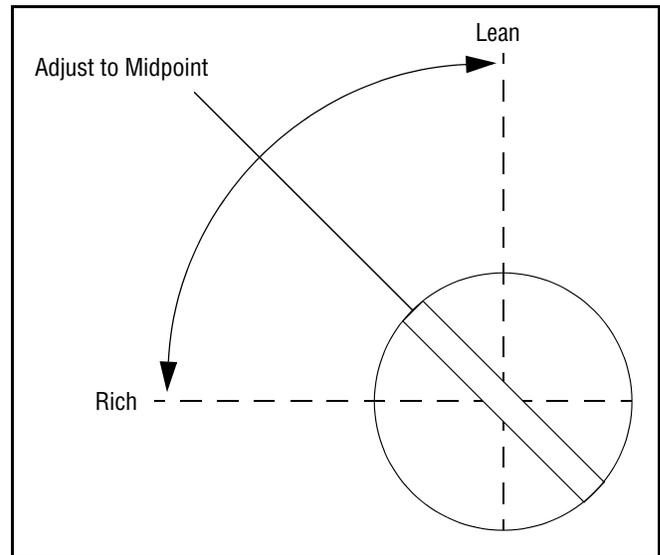

Figure 17
2. **Low Idle Fuel Screw Setting:** Place the throttle into the “idle” or “slow” position. Turn the low idle fuel mixture screw out (counterclockwise) from the preliminary setting until engine speed decreases (rich). Note the position of the screw. Now turn the mixture screw in (clockwise). The engine speed may increase, then it will decrease as the screw is turned in (lean). Note the position of the screw. Set the adjusting screw midway between the rich and lean settings. See Figure 17